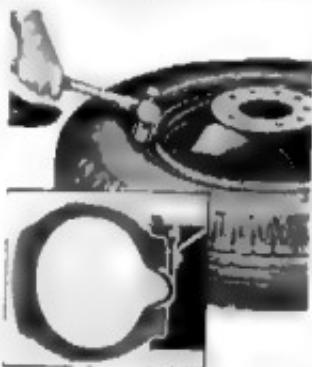

Fig. 65—Releasing Tire Clamp Ring
2. Using a hammer tap around the side ring progressively to move it in toward the center of the rim until it clears the clamp ring (fig. 65).